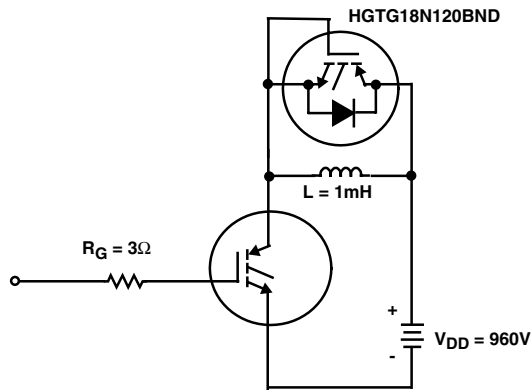

FIGURE 18. INDUCTIVE SWITCHING TEST CIRCUIT
- Values for two Turn-On loss conditions are shown for the convenience of the circuit designer. E_{ON1} is the turn-on loss of the IGBT only. E_{ON2} is the turn-on loss when a typical diode is used in the test circuit and the diode is at the same T_J as the IGBT. The diode type is specified in Fig. 18.